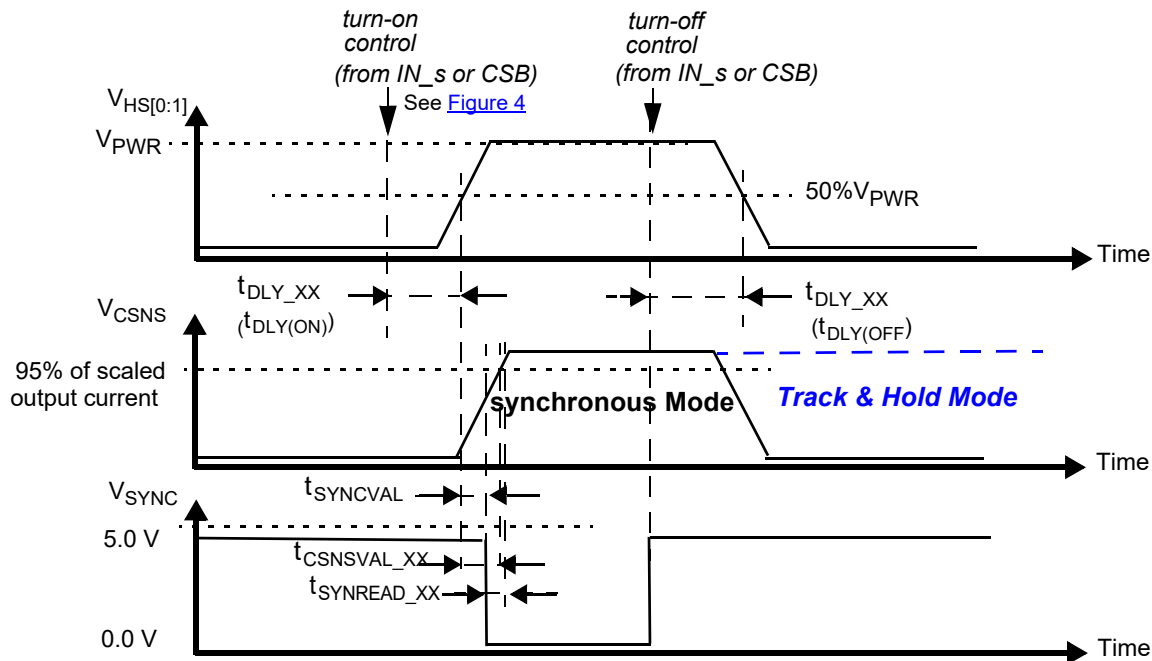

Figure 9. Synchronous and Track & Hold current sensing modes: associated delay and settling time
29. Time required to switch off the channel after detection of overtemperature (OT), overcurrent (OC), SC or UV error (time measured between start of the negative edge on the FSB pin and the falling edge on the output voltage until $V(\text{HS}[0:1]) = 50\%$ of V_{PWR}).
30. Settling time ($= t_{\text{CSNSVAL_XX}}$), SYNC output signal delay ($= t_{\text{SYNCVAL_XX}}$) and Read-out delay ($= t_{\text{SYNREAD_XX}}$) are defined for a stepped load current ($100\text{ mA} < I(\text{LOAD}) < \text{IOCLX A FOR CSNS_RATIO_S} = 1$, AND $300\text{ mA} < I(\text{LOAD}) < \text{IOCLX A}_0 \text{ FOR CSNS_RATIO_S} = 0$). (see Figure 9 and Output current monitoring \(CSNS\))
The CS pin allows independent current monitoring of channel 0 or channel 1 up to the steady state overcurrent threshold. It can also be used to sense the device temperature. The different functions are selected by setting bits CSNS1_en and CSNS0_en to the appropriate value (Table 23). When the CSNS pin is sensed during switch-off in the (optional) Track & Hold mode (see Figure 9), it outputs the scaled value of the load current as it was just before turn-Off. When several devices share the same pull-down resistor, the CSNS pins of devices the current of which is not monitored must be tri-stated. This is accomplished by setting CSNS0_en = 0 and CSNS1_en = 0 in the GCR register (Table 10). Settling time ($t_{CSNSVAL_XX}$) is defined as the time between the instant at the middle of the output voltage's rising edge ($HS[0:1] = 50\%$ of V_{PWR}), and the instant at which the voltage on the CSNS-pin has settled to $\pm 5.0\%$ of its final value. Anytime an overcurrent window is active, the CSNS pin is disabled (see Overcurrent detection on resistive and inductive loads). The current and temperature sensing functions are unavailable in Fail-safe mode and in Normal mode when operating without the V_{DD} supply voltage. In order to generate a voltage output, a pull-down resistor is required ($R(CSNS)=1.0\text{ k}\Omega$ typ. and $470 < R(CSNS) < 10\text{ k}$). When the current sense resistor connected to the CSNS pin is disconnected, the CSNS voltage is clamped to $V_{CL(CSNS)}$. The CSNS pin can source currents up to about 5.6 mA.
To synchronize current sensing with an external process, the SYNC signal can be connected to a digital input of an external MCU. SYNC is asserted logic low when the current sense signal is accurate and ready to be read. The current sense signal on the CSNS pin has the specified accuracy $t_{SYNCREAD_XX}$ seconds after the falling edge on the SYNC pin (Figure 9) and remains valid until a rising edge is generated. The rising edge that is generated by the SYNC pin at the turn-OFF instant (internal or external) may also be used to implement synchronization with the external MCU. Parameter $t_{SYNCVAL_XX}$ is defined as the time between the instant at the middle of the output-voltage rising edge ($HS[0:1] = 50\%$ of V_{PWR}), and the instant at which the voltage on the SYNC-pin drops below 0.4 V (V_{SOL}). The SYNC pins of different devices can be connected together to save μ -controller input channels. However, in this configuration, the CSNS function of only one device should be active at a time. Otherwise, the MCU does not determine the origin of the SYNC signal. The SYNC pin is open drain and requires an external pull-up resistor to VDD.